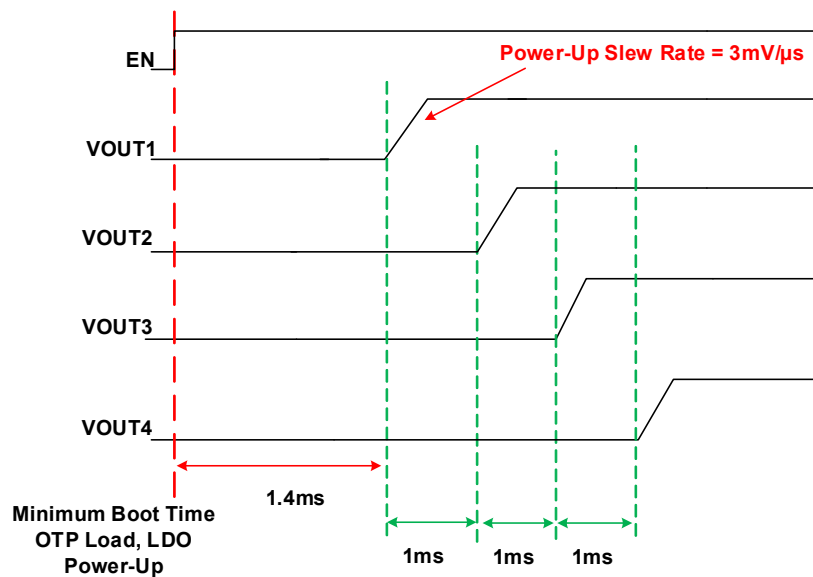

Figure 36. Master Chip Enable Power-Up Example
Figure 36 on page 26 provides an example of power-up configurability. The master chip enable pin (EN) transitions from 0 to 1 and OTP is loaded over 1.4ms. After the initial 1.4ms boot interval, the buck output start-up sequence begins. In the Figure 36 example, BUCK1_EN_DLY is set for 0ms, BUCK2_EN_DLY is set for 1ms, BUCK3_EN_DLY is set for 2ms, and BUCK4_EN_DLY is set for 3ms.